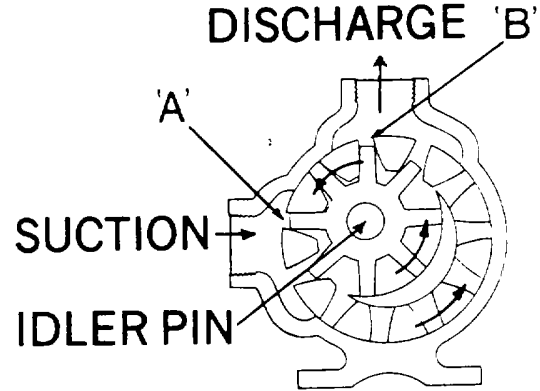

FIGURE 3
4. **Suction/Discharge** — shaft rotation will determine which port is suction and which discharge. A look at Figure 3 will show how rotation determines which port is which; as the pumping elements (gears) come out of mesh, point "A" on Figure 3, liquid is drawn into the suction port; as the gears come into mesh, point "B", the liquid is forced out the discharge port. Reversing the rotation reverses the flow through the pump. When determining shaft rotation, always look from the shaft end of the pump. Unless